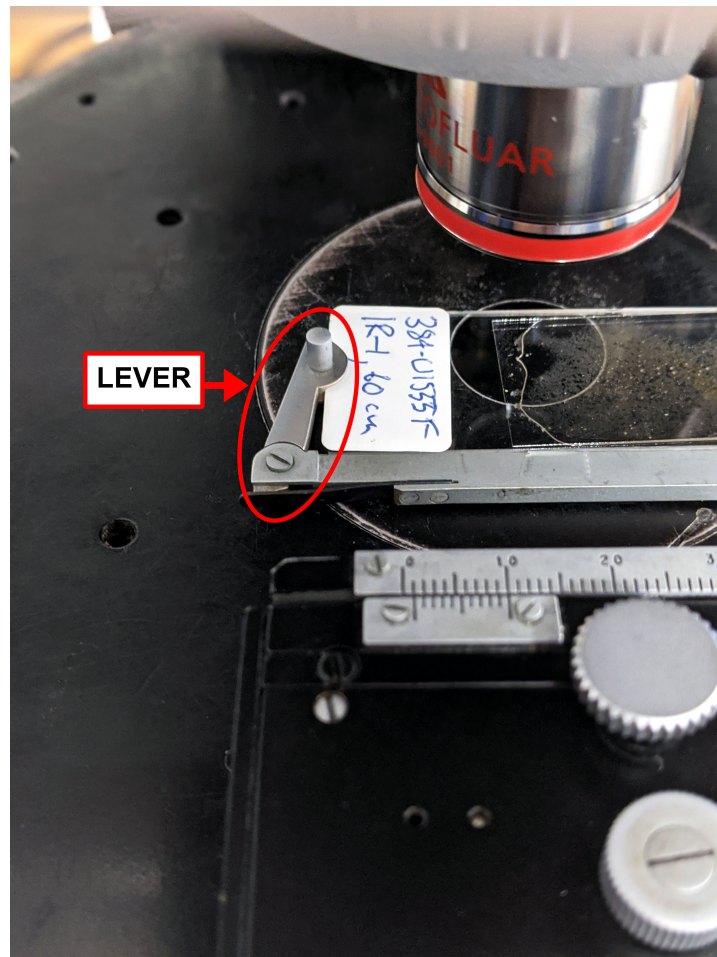

Figure 12: Lever arm securing sample
2. Secure the slide by moving the lever arm in so it holds the slide in place (Figure 12).